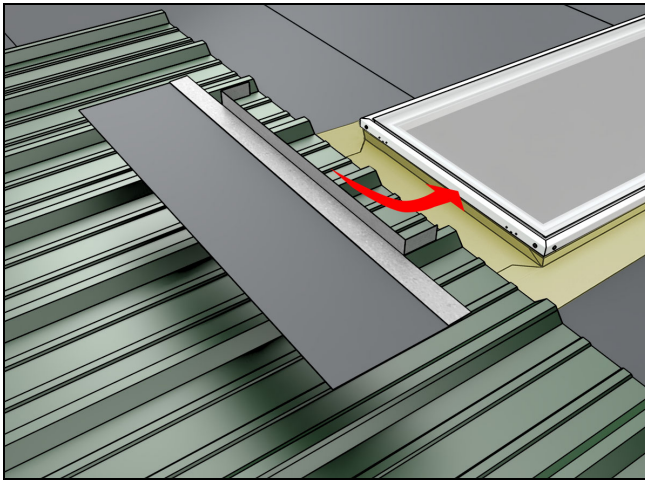
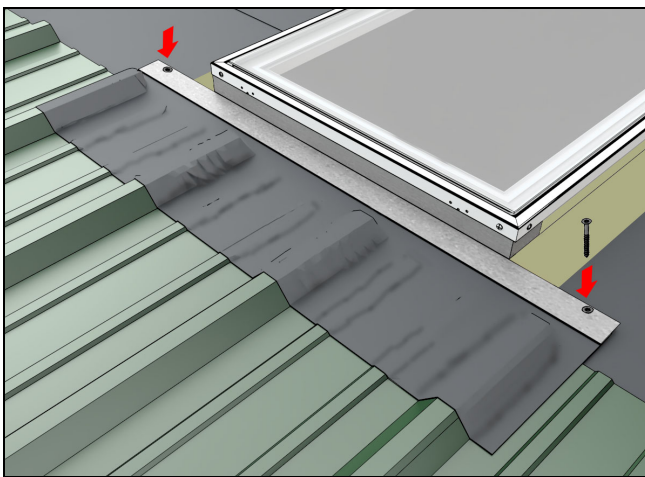

Figure 50
Figure 51
2. Center the sill apron assembly on the sill of the skylight, bend tabs in, seat firmly to unit and deck. See Figure 50. Remove adhesive backing and press firmly at seams to allow for proper drainage and fasten with roofing nails. See Figure 51.